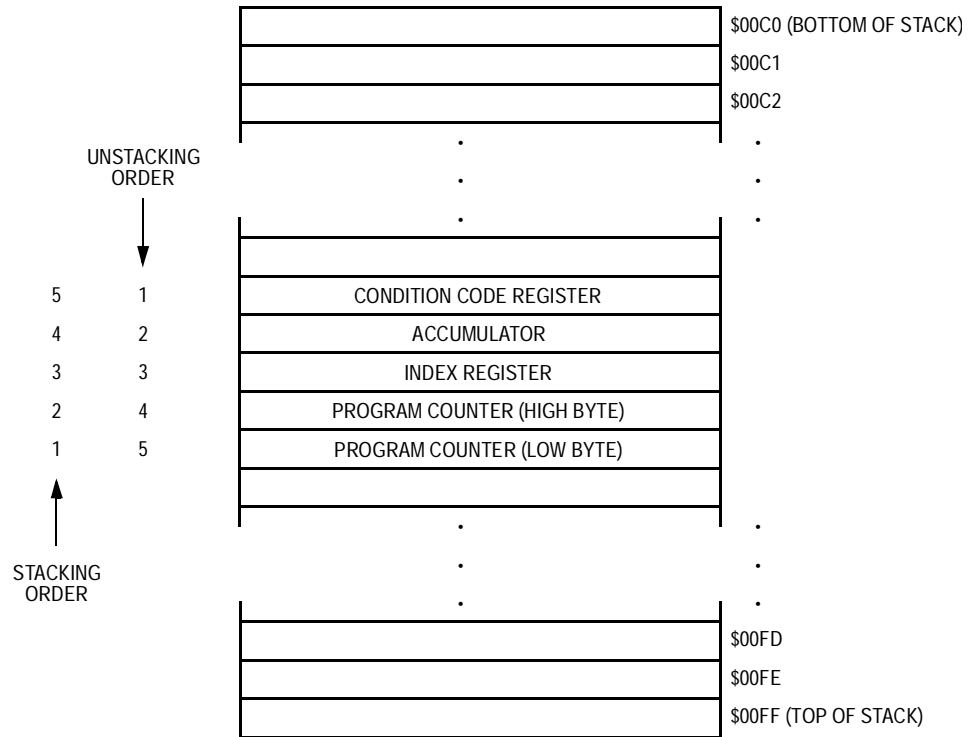

Figure 5-6. Interrupt Stacking Order
- Stores the CPU registers on the stack in the order shown in **Figure 5-6**
The return-from-interrupt (RTI) instruction causes the CPU to recover the CPU registers from the stack as shown in **Figure 5-6**.